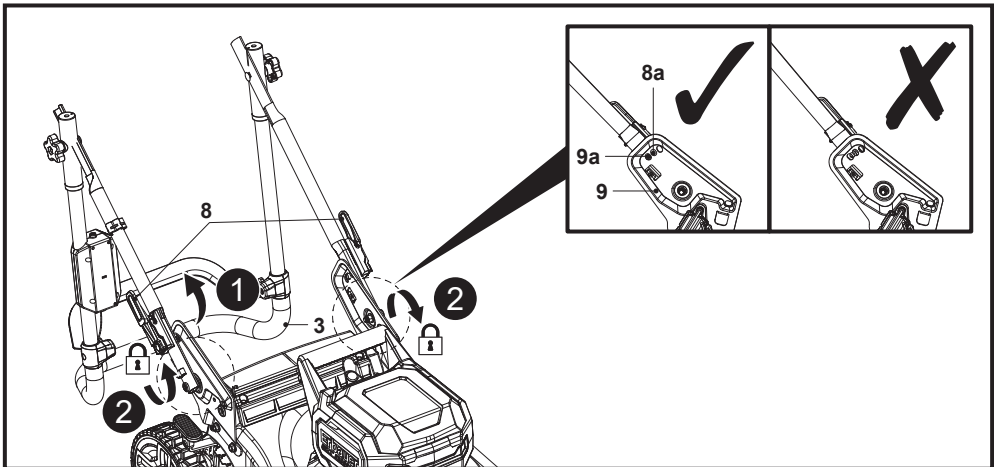

Fig. 2
3. Grasp the grip handle (3) and keep rotating the handle assembly until the lock pin (8a) of the lock lever (8) automatically engaged in one of the holes (9a) of the handle support (9), depended on the need of handle height; Rotate the two lock levers (8) clockwise to secure the assembly (Fig. 2, steps 1, 2).